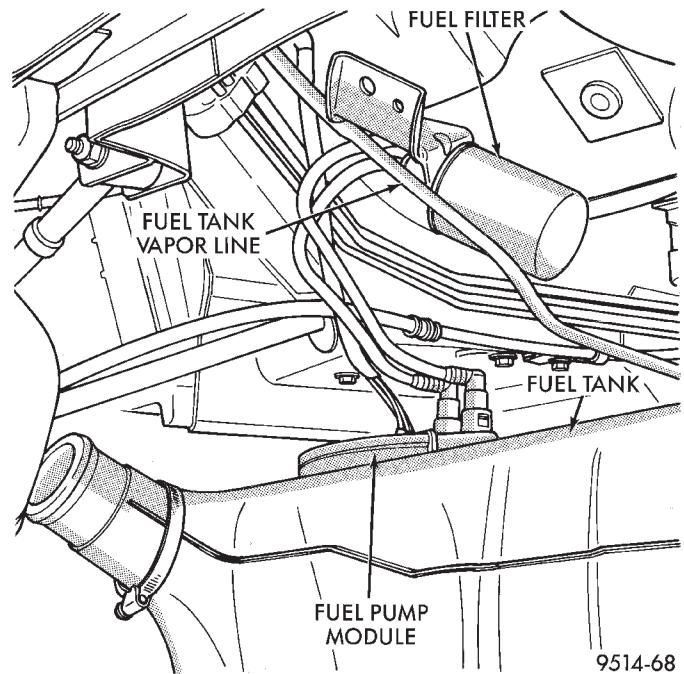

Fig. 40 Fuel Tank Removal
(10) Disconnect fuel lines from fuel pump module. These are quick connect fittings (Fig. 40).
(11) Disconnect vapor line from tank mounted rollover valve. The valve is located at the rear of the tank and connects to the vapor line with a rubber hose.